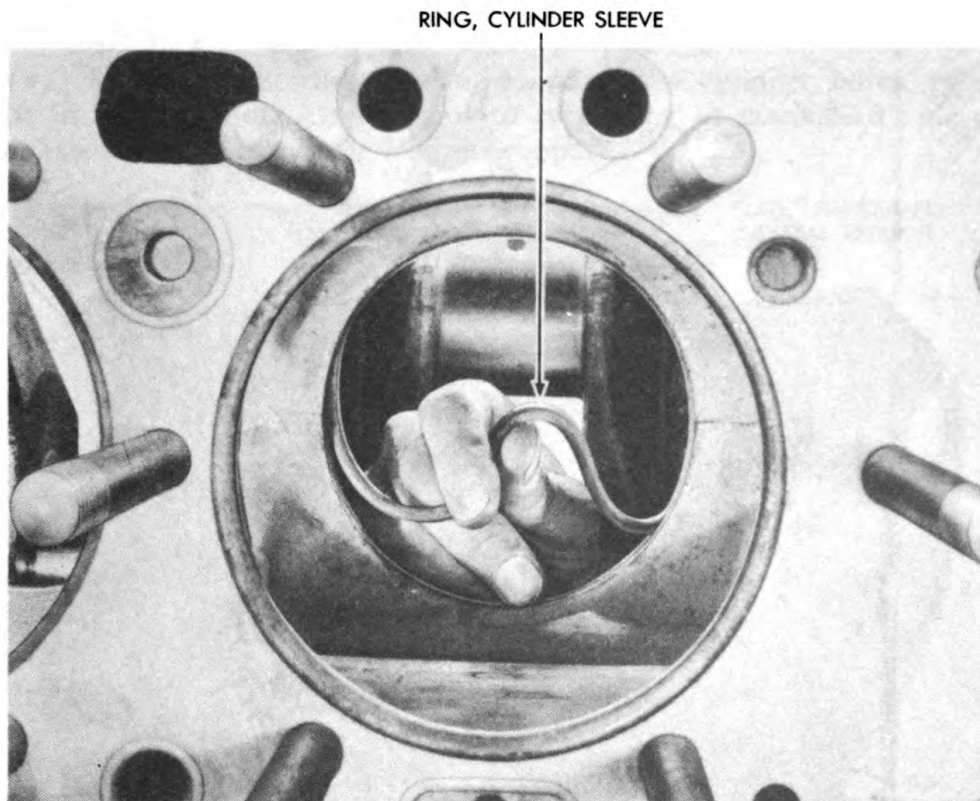

Figure 42—Cylinder Sleeve Ring Removal
(3) REMOVE CYLINDER SLEEVE RING (fig. 42).